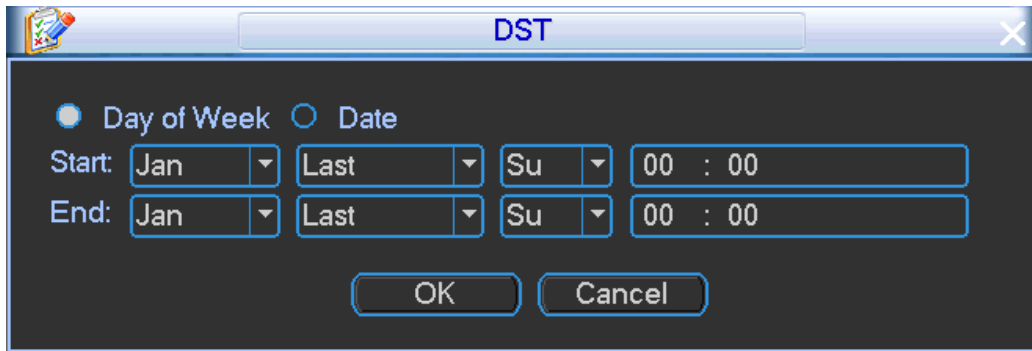
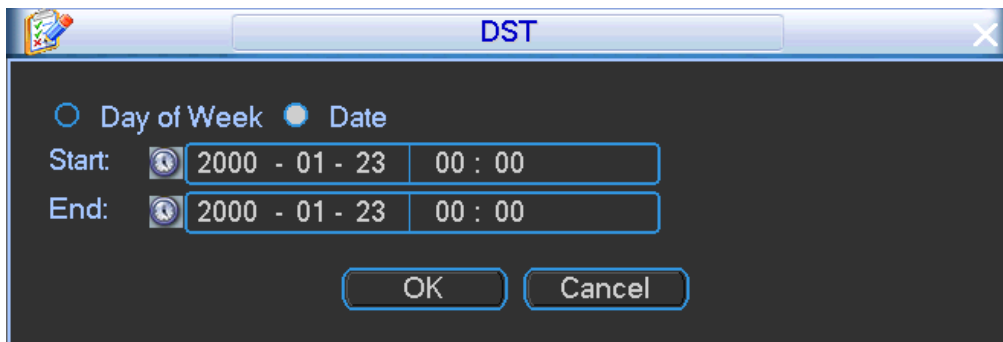

Figure 4-9
Figure 4-10
- DST: Here you can set DST time and date. Please enable DST function and then click set button. You can see an interface is shown as in Figure 4-9. Here you can set start time and end time by setting corresponding week setup. In Figure 4-9, enable date button, you can see an interface is shown as in Figure 4-10. Here you can set start time and end time by setting corresponding date setup.